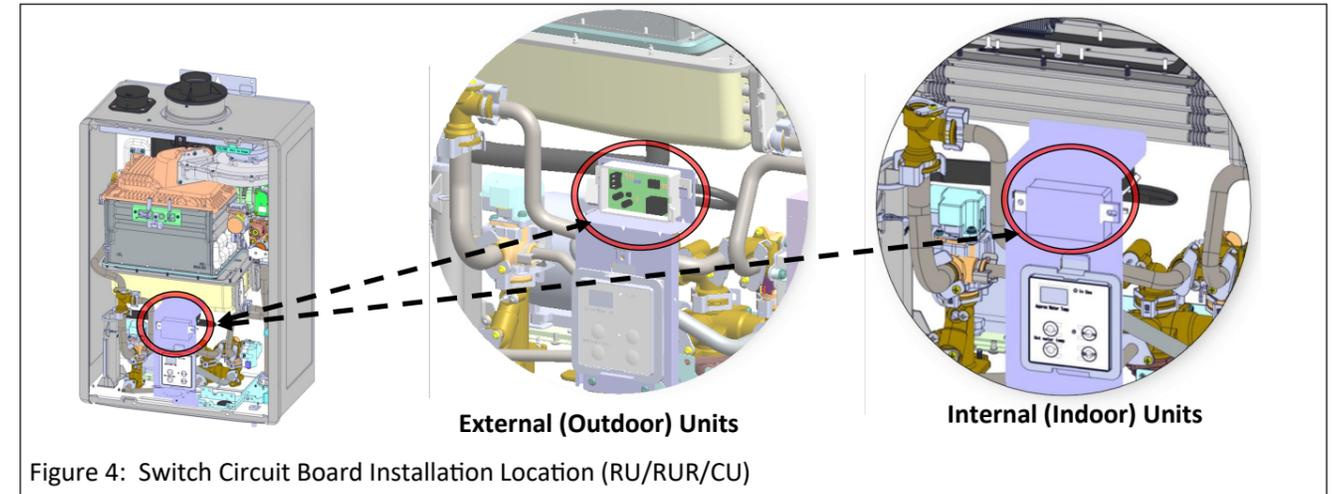

Figure 4: Switch Circuit Board Installation Location (RU/RUR/CU)
Some models require the switch to be flipped. Refer to figure 4 and 5 for the appropriate switch orientation for your model.
- Install the **switch circuit board** to the controller bracket using the hooks at the top of the controller bracket (Figure 4 & 5).